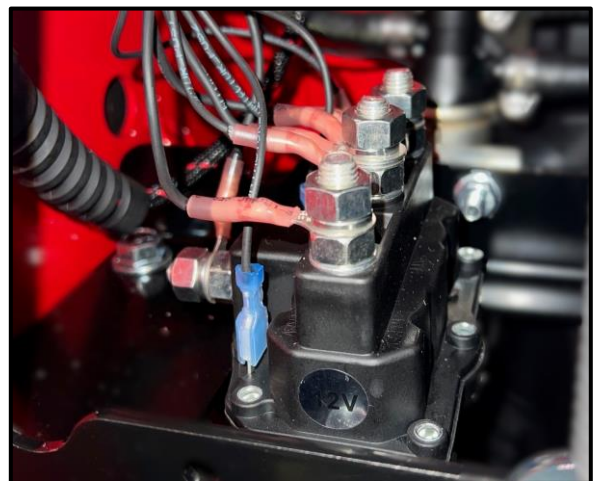

Figure 25 Contactor on Battery Tray
- Optional:** Take a photo [Figure 25] of the contactor and connected wires for reference.